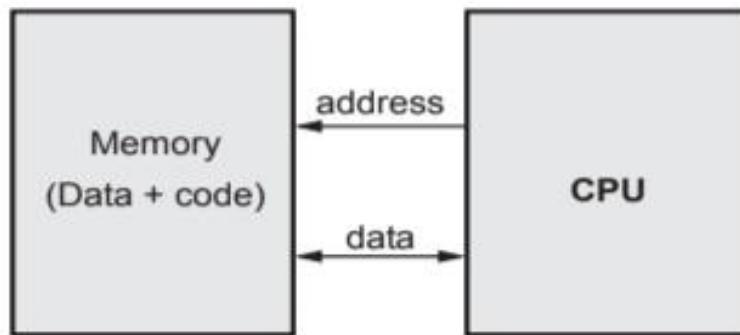

Fig. 2.9.1 Von Neumann architecture
- Fig. 2.9.1 shows Von Neumann Architecture.
- The CPU contains many internal registers that store values used internally. The Program Counter (PC) one of the internal register which holds the address in memory of an instruction.